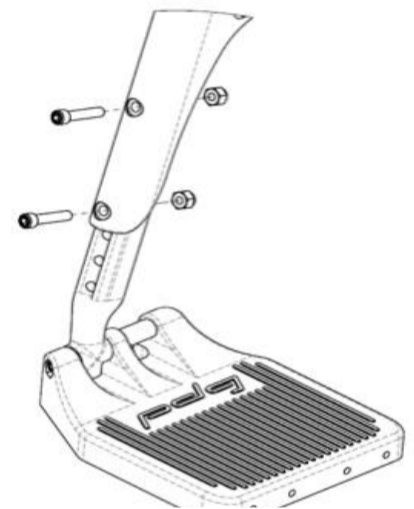

Figure 14.14: Standard Swing-Away footrest height adjustment
- Remove any padding and/or calf strap, if fitted. Remove the fastener and nut as shown in figure 14.14